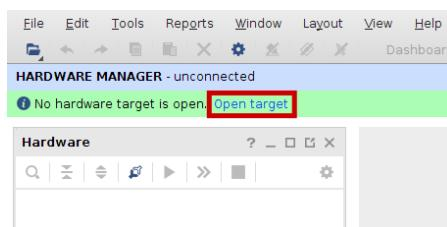

Figure 112. Open target
- The Hardware Manager opens and informs you that no hardware target is open. Open the target by clicking on *Open target – Auto connect* (Figure 112).